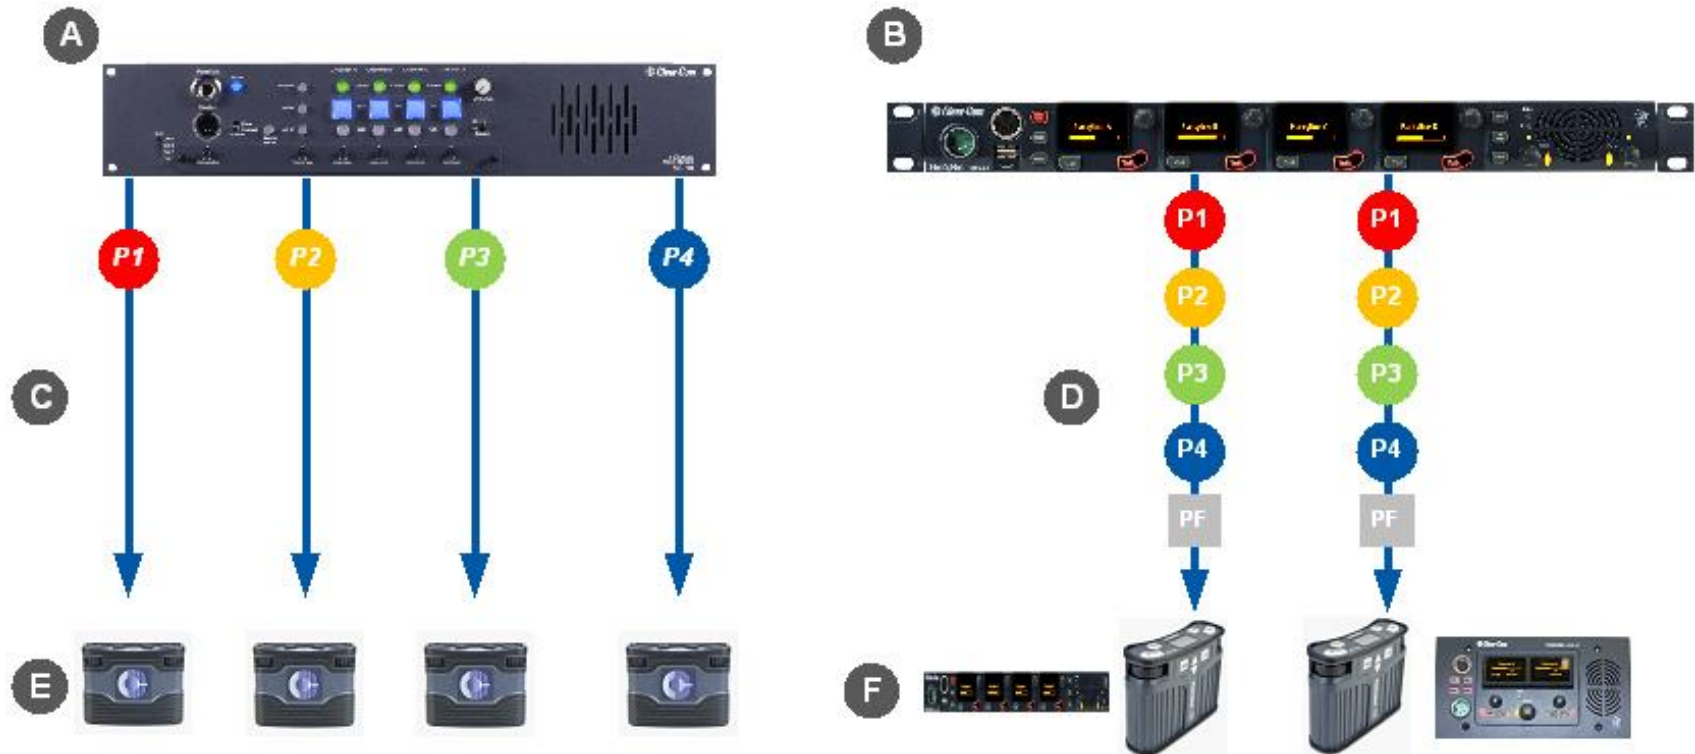

Figure 3-1: Analog and digital cabling comparison
C	<p>The second layout uses an XLR Bulkhead and a Mult-box (passive (Y) splitters) to combine:</p> <p>A daisy chain (with optional redundancy flyback).</p> <p>Point-to-point connected beltpacks (using the Mult-box).</p> <p>The XLR Bulkhead and splitters should be screened.</p> <p>The complexity and variety of layouts does not restrict physical access to Channels.</p> <p>Because HelixNet Partyline is a digital system, the HelixNet Stations can access any of the available Channels (plus a Program Feed), however they are connected to the Main Station (see Figure 3-1: Analog and digital cabling comparison).</p>